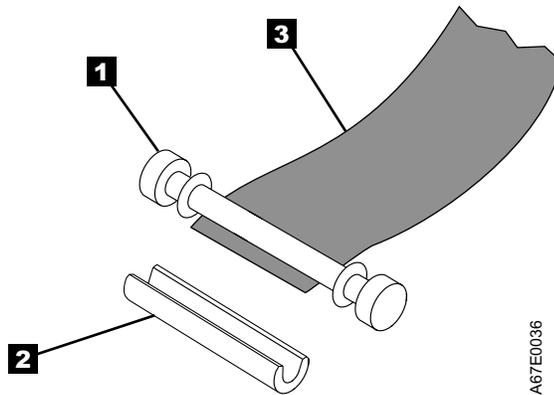

Figure A-10. Removing the C-clip from the leader pin. Use your fingers to push the C-clip from the leader pin.
5. On the leader pin ( **1** in Figure A-10), locate the open side of the C-clip ( **2** ). The C-clip is a small black part that secures the tape ( **3** ) to the pin.